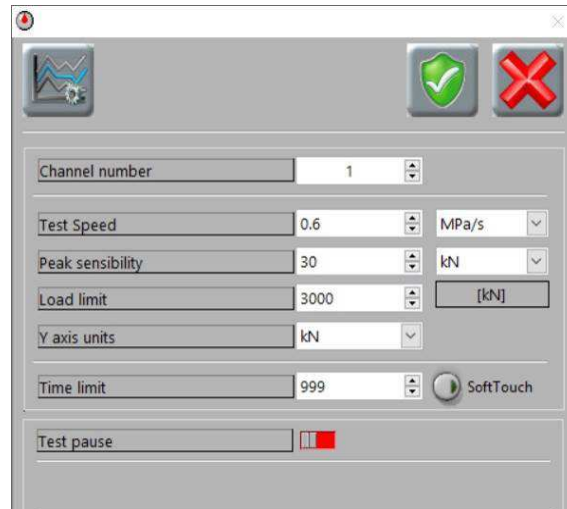

Fig. 6-16
4. In the **Test settings panel** (Fig. 6-16), select the **Channel number** of the machine that will be running the test. Check that suitable values are entered for the **Test speed**, **Peak sensitivity**, **Load limit**, and **Time limit**. If required, change the units that will be used for the y-axis of the graph.